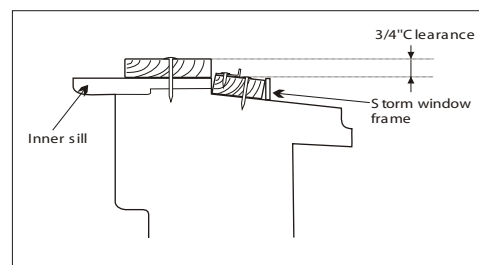

Fig. 8
7. If storm window presents interference, fasten a 2" wide wood strip to the inner window sill across the full width of the sill. The wood strip should be thick enough to raise the height of the window sill so that the unit can be installed without interference from the storm window frame, as show in Fig. 8.
This will raise the L bracket as shown in Fig. 8.